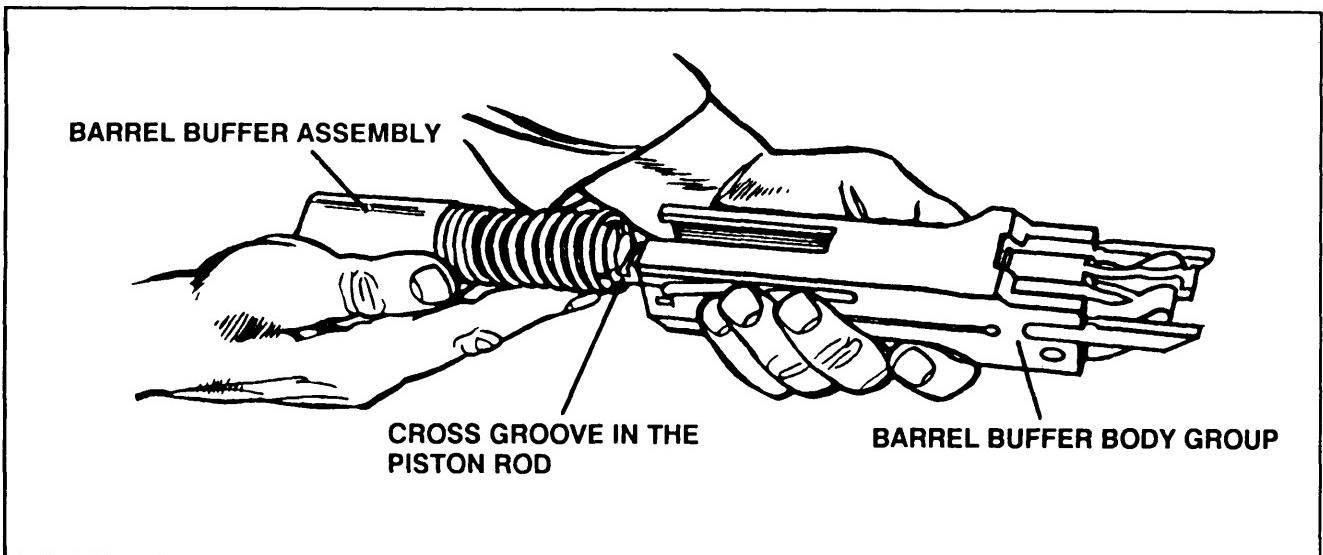

Figure 2-14. Separating the barrel buffer assembly from the barrel buffer body group.
g. Barrel Buffer Assembly. Pull the barrel buffer assembly from the rear of the barrel buffer body group. The barrel buffer assembly will not be disassembled (Figure 2-14). This completes general disassembly.